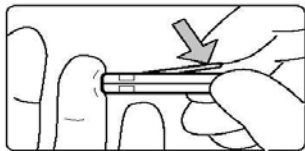

Figure 3
5. Place platform end of lancet firmly against finger and press top firing pad (Figure 3).